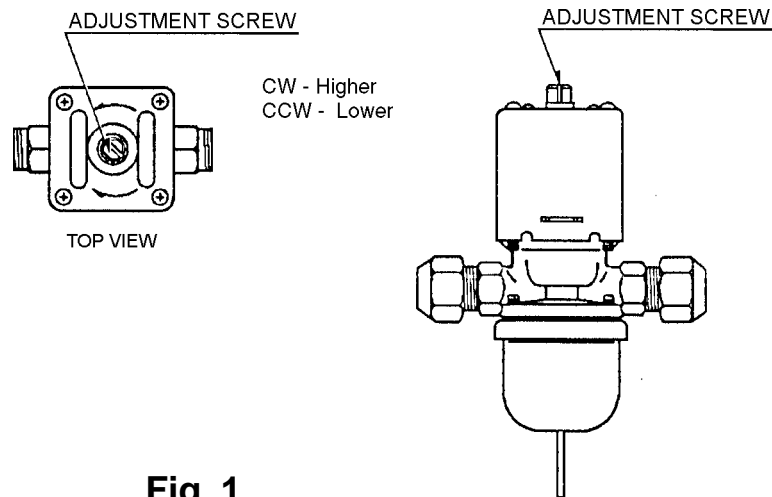

Fig. 1
- 2) Rotate the adjustment screw by using a flat blade screwdriver, so that the pressure gauge shows 270 PSIG or the thermometer reads 104–115°F, 5 minutes after a freeze cycle or icemaking process starts. When the pressure exceeds 270 PSIG, or the condenser drain temperature exceeds 115°F, rotate the adjustment screw counterclockwise. See Fig. 1.